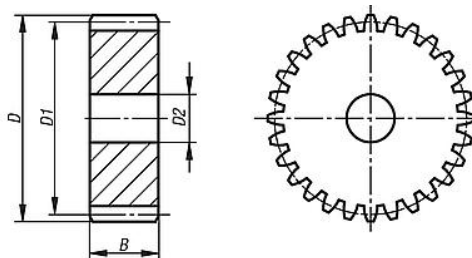

Figure 1.2 Spur gear
- Preparation of spur gear with ABS material as shown in the Figure 1.2